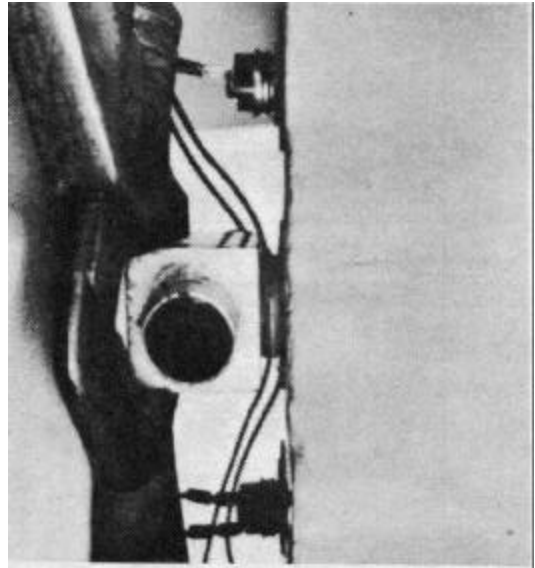

Figure 5-132
4. The suction hose may be removed from the end of the outlet elbow by rotating the body of the elbow with a 2-1/2 inch open end wrench or an adjustable offset pipe wrench (Fig. 5-132). Continue to rotate the outlet elbow, removing it from the suction baffle.